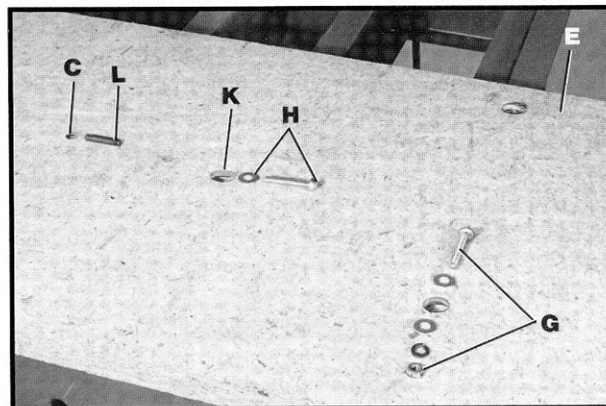
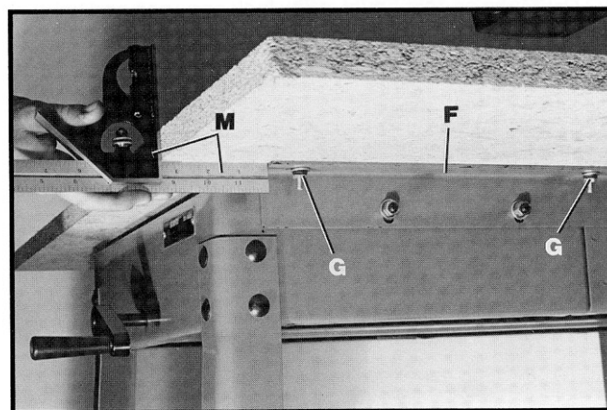
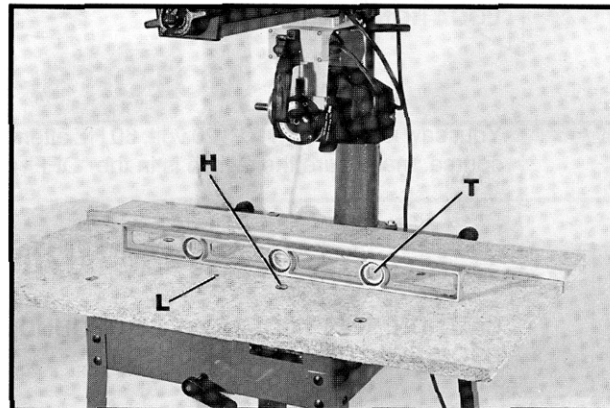

Fig. 27
Fig. 28
Fig. 31
3. Place the front table board (E) Fig. 27, on the table frame so the counterbored holes face up. The hole (C) Fig. 27, that is not counterbored should be to the left of center as you face the saw.
4. Align the four outer holes in the front table board with the holes in the table mounting brackets (F) Fig. 28, on both sides of the table. Fasten the front table board to the table mounting brackets with four 1½ inch-long round head screws (G) Figs. 27 and 28, eight flat washers, four lock-washers and hex nuts. **NOTE:** Do not tighten hardware at this time.
5. Insert the one remaining 1½ inch-long round head screw and flat washer (H) Fig. 27, into counterbored hole (K) and thread into Tinnerman nut which was assembled to saw frame in **STEP 1**. **NOTE:** Do not over-tighten screw at this time.
6. Insert 1¼ inch-long slotted head screw (L) Fig. 27, into hole (C) and thread screw into tee nut which was inserted into the underside of table board in **STEP 2**. **NOTE:** Do not over-tighten set screw at this time.
7. Using an adjustable square (M) Fig. 28 as shown, check the right and left front edge of the table board to make certain both sides are the same distance from the edge of the table mounting brackets (F). Tighten table mounting screws, two of which are shown at (G) Fig. 28, on both sides of the table.
10. Check the front table to see if it is laying flat on the table frame. Place a level (T) Fig. 31, on the table as shown. If the table is high, tighten round head screw (H) Fig. 27. If the table is low, tighten set screw (L).